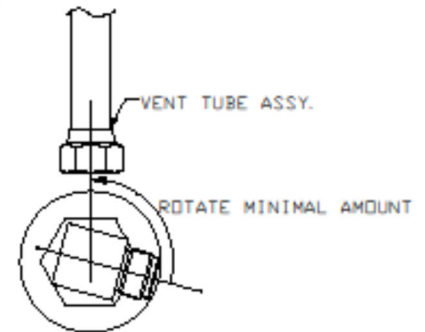

FIGURE 5
7. Back off elbow the minimal amount for vent tube alignment. **DO NOT EXCEED 1 TURN.** SEE FIGURE 5